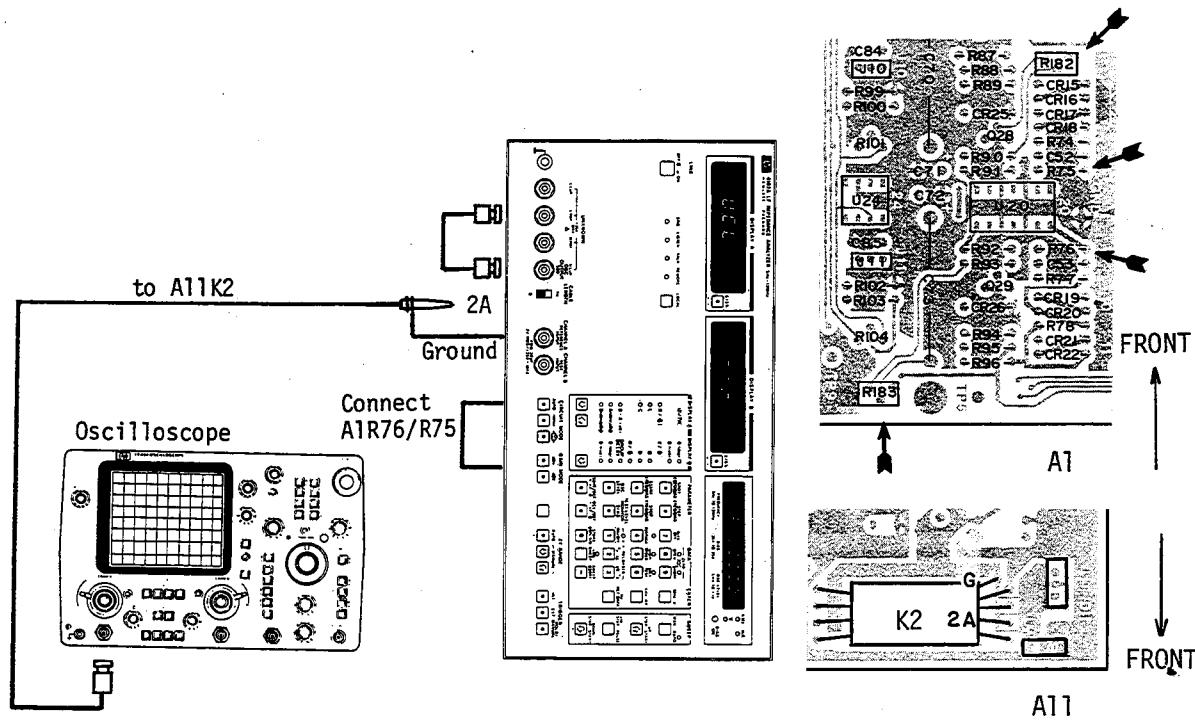

Fig. 5-14 A1 LCUR Amplifier Output Level Adjustment Setup.
- b. Connect the  $L_{POT}$  terminal to the  $H_{CUR}$  terminal using the BNC-to-BNC cable, and connect the oscilloscope high input to pin 2A of A11K2 and low lead to the ground (G) pin as shown in Figure 5-14.